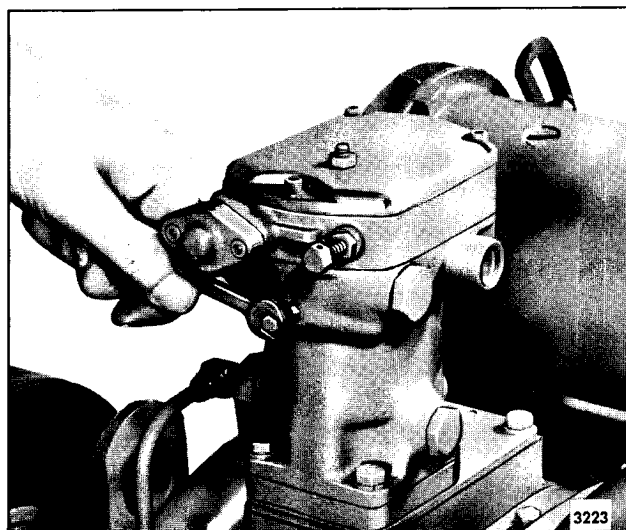

Fig. 10 - Adjusting Maximum No-Load Engine Speed
6. Loosen the lock nut on the maximum speed adjusting screw (see Fig. 10) and turn the screw out until 5/8" of the threads are exposed.
2. Turn the maximum speed adjusting screw (see Fig. 10) in until the screw contacts the throttle linkage internally, limiting the maximum speed of the engine at 8% above the rated full-load speed.